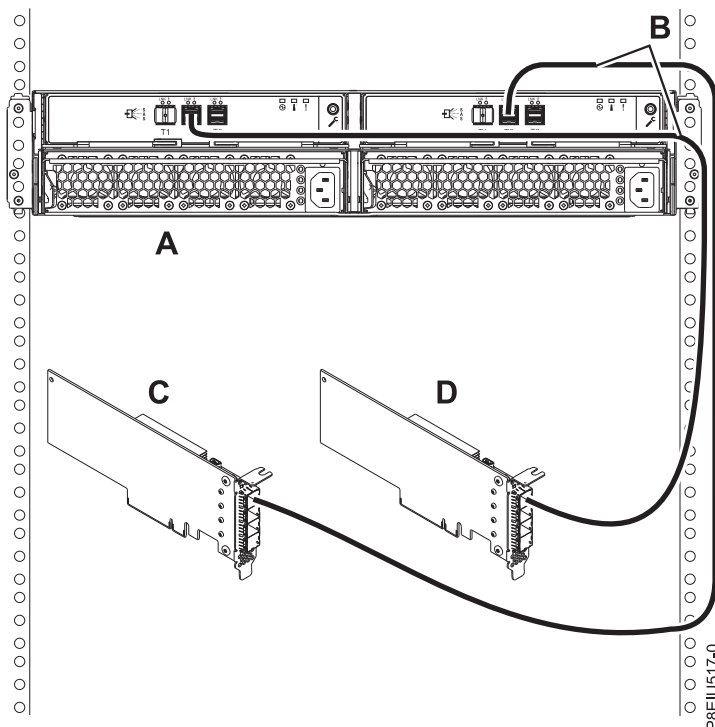

Figure 13. Mode 1 connection of one 5147-024 enclosure by using two AA12 or other straight cables to two adapters
13. Complete a mode 1 connection of one 5147-024 storage enclosure (**A**) by using two AA12 or other straight cables (**B**) to two adapters (**C, D**), as shown in Figure 13, and then continue with “Connecting cables, power cords, and installing covers” on page 22.